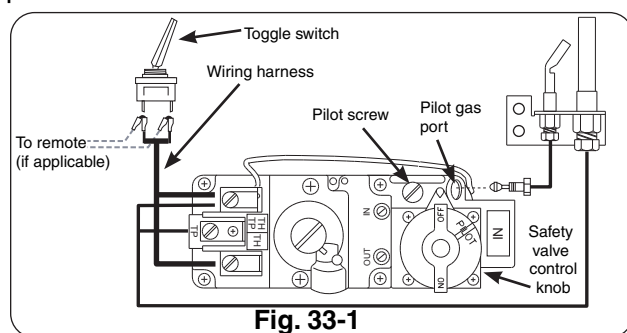

Fig. 33-1
To read the safety valve control knob (Fig. 33-1), read the marking nearest the teardrop-shaped metal pointer.
- b. If adjustment is necessary (Fig.33-1), turn the gas adjustment screw counterclockwise ↻ to increase the pilot flame, or clockwise ↻ to decrease the pilot flame.